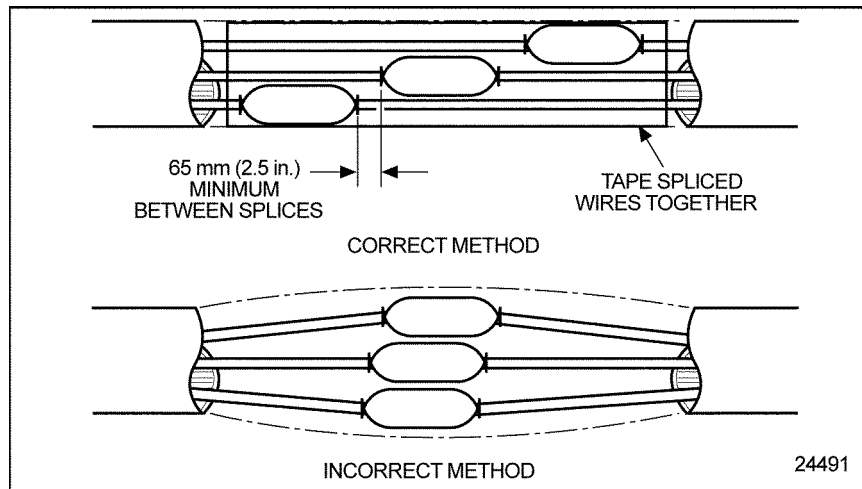

Figure 3-36 The Correct and Incorrect Method of Staggering Multiple Splices
1. Stagger the position of each splice (see Figure 3-36) so there is at least a 2.5 in. (65 mm) separation between splices.